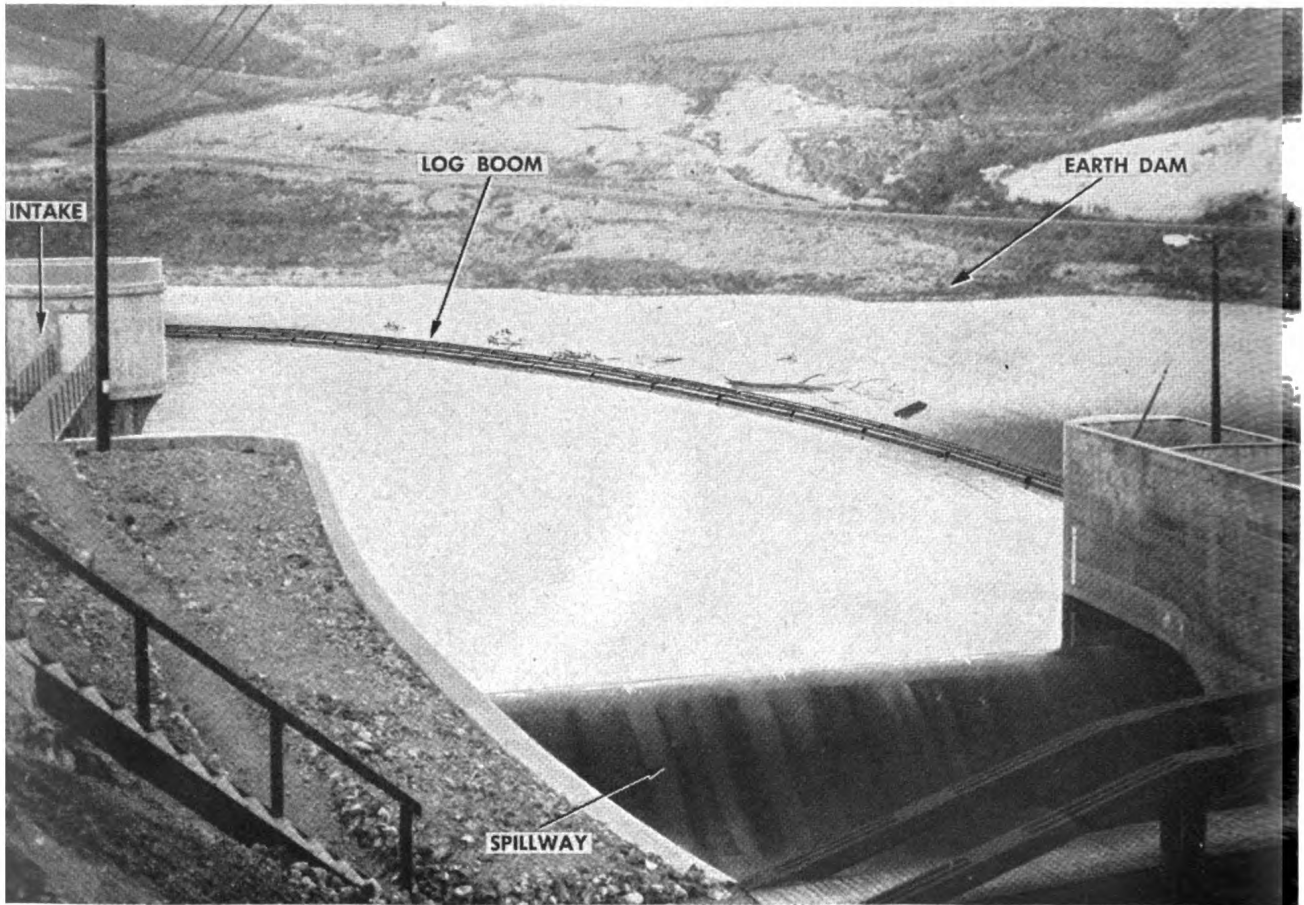

Figure 27. Impounding reservoir. (Note debris caught by log boom, keeping spillway clear.)
a. Inspect Spillways. Make sure spillways are free from trash and debris because blocking may cause overtopping and possible failure of dam. Earth-fill dams invariably fail if they are overtopped. A log boom stretched across the reservoir about 30 feet behind the spillway helps keep it clear (fig. 27). Use flashboards with great caution. Design and install them so that they fall or wash away when water flows over them.